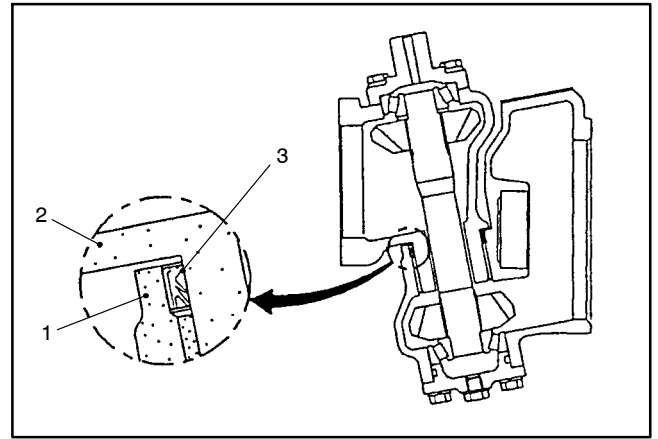

Figure 18
1. Coat new shaft seal with grease and install in axle case as shown (Fig. 18).